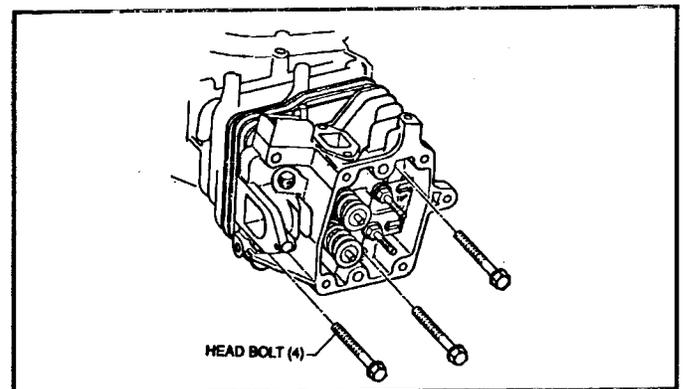

Figure 55
2. Remove the head and push rods from the engine. See Figure 55. The push rods are the same on intake and exhaust, and can be used to operate either valve.